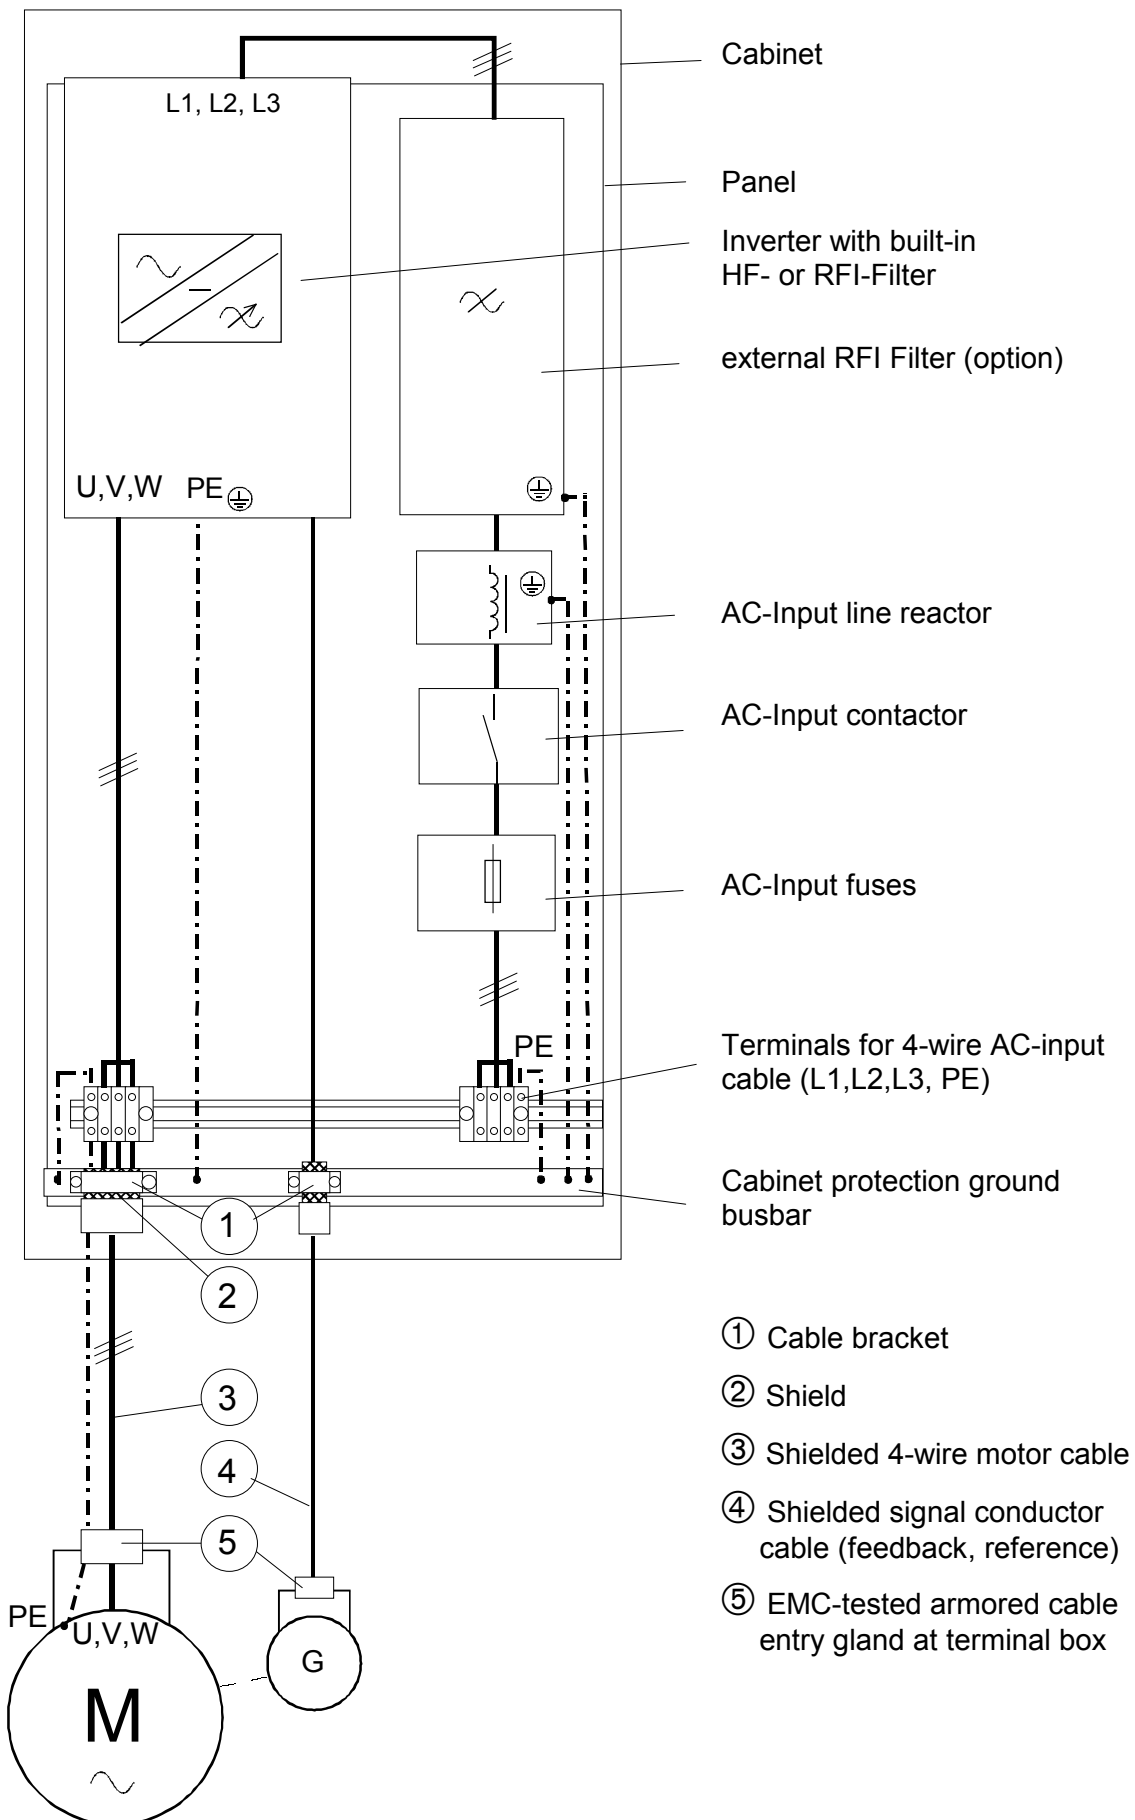

Figure A-2: Example for control cabinet configuration
Cabinet Mounted Inverters (see Figure A-2)
- All cable screens, entering the cabinet, must be connected to the control cabinets ground busbar. To ensure that the screen of the individual cable is connected solidly and with good conductivity to the ground busbar, galvanized cable brackets as shown in Figure A-2 are recommended. This applies also for coaxial cable, at which only the outer insulation should be removed.